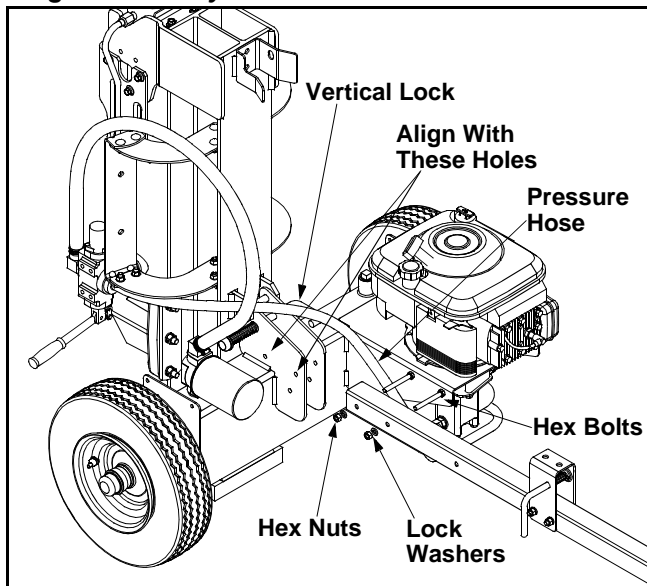
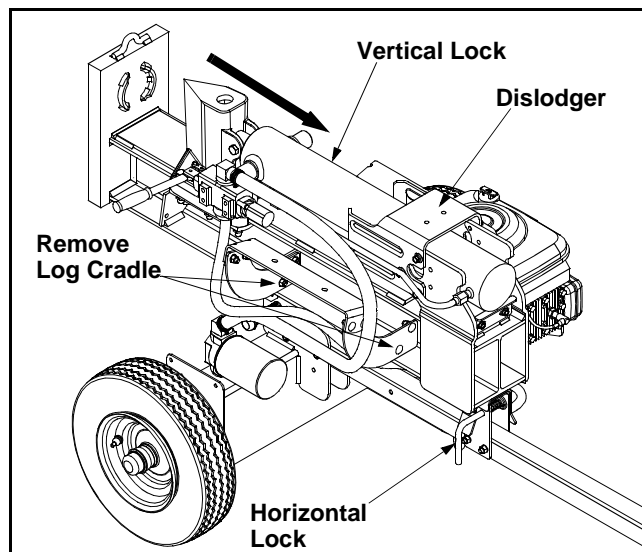

Figure 2
Figure 3
### Attaching The Tongue (See Figure 2)
- The log splitter is shipped with the beam in the vertical position. Pull out the vertical lock rod, rotate it back, and pivot the beam to the horizontal position until it locks. See Figure 2 & Figure 3.
- Disconnect the dislodger from the beam weld bracket by removing the six hex screws and flat washers. See Figure 3.